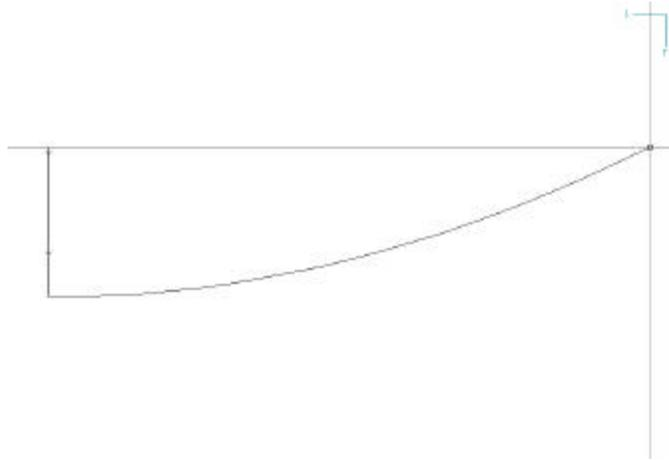

Figure 2-10: Top view
9. Click the **Top** view button to see the effect. (See Figure 2-10.)